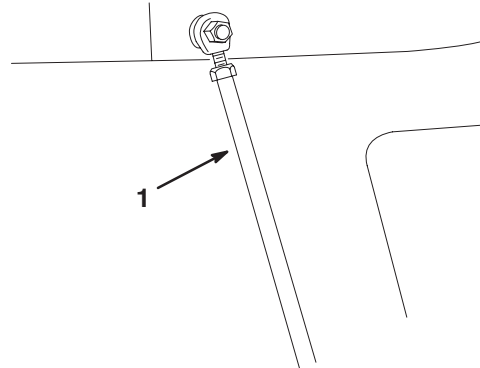

Figure 18
4. Secure the hopper tie rods to the frame with hair pin cotters (Fig. 18).